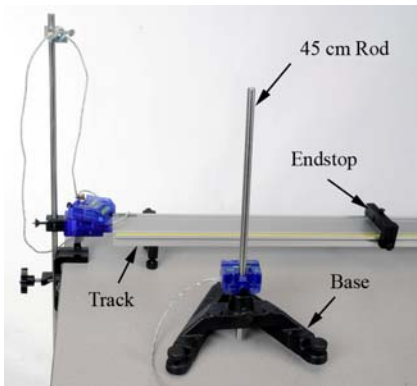
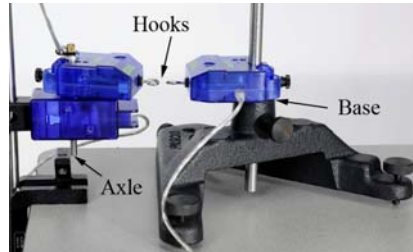

Figure 5: Adding Track
Figure 6: Force Sensor Height
7. The Force Sensor that applies the sideways force is supported by the 45 cm Rod and Base (see Fig. 5). Slide the Force Sensor all the way down on the Rod until it rests on the Base shoulder as shown in Figure 6.